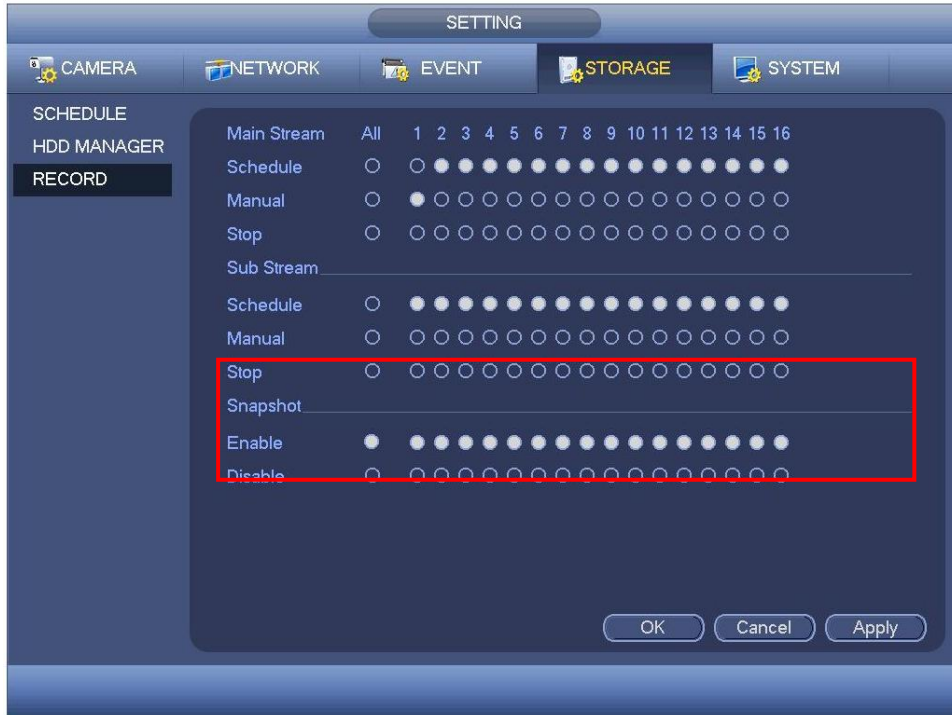

Figure 4-95
- On the preview interface, right click mouse and then select Manual->Record, or in the main menu, from Setting->Storage->Record, check the box to enable snapshot function of corresponding channels. See Figure 4-95.